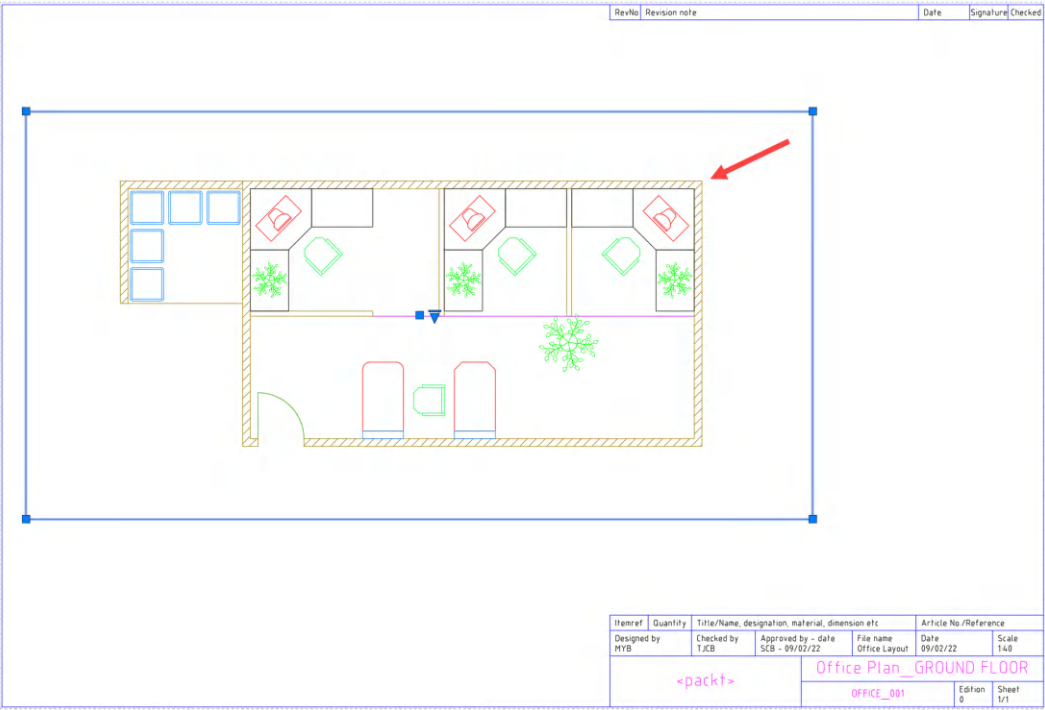

Figure 8.7: Scaling the viewport to 1:50 without resizing the viewport boundary
3. Select the **1:50** scale in the list, and the content displayed in the viewport will be resized to that scale, but with this scaling method, the viewport boundary remains the same, as shown in *Figure 8.7*.
4. The next step is to rationalize space in your layout. The viewport can be moved like any other AutoCAD object. Ensure the viewport is selected (the blue grips at each corner will be visible, and the outline will go blue). This is also displayed in *Figure 8.7*: